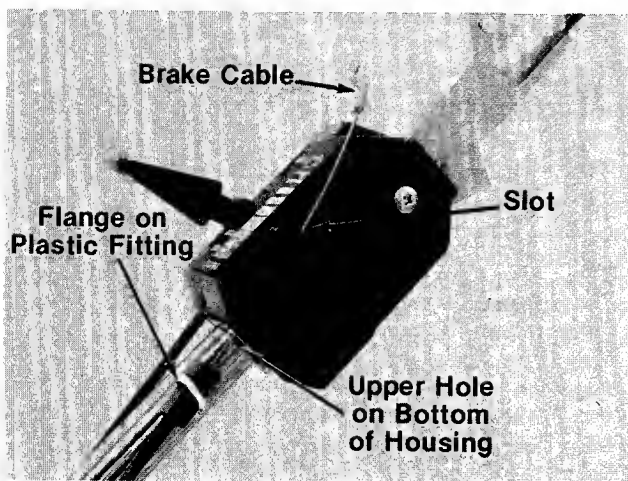

FIGURE 5.
8. The brake cable is attached to the engine. Route the brake cable under the lower handle. Place the end of the brake cable into the upper hole on the bottom of the control housing, and through the slot in the side of the housing as shown in figure 5. The angle of the flange on the plastic fitting must be positioned downward as shown. Be careful not to bend or kink the cable.